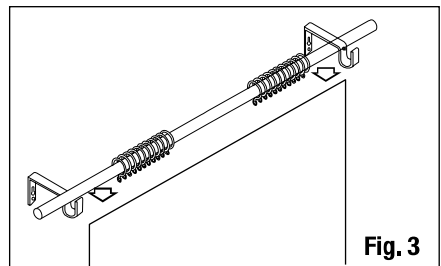

Fig. 3
- Drop the pole onto the brackets and centralise over the window (Fig 3.) Adjust the length of the pole as required.